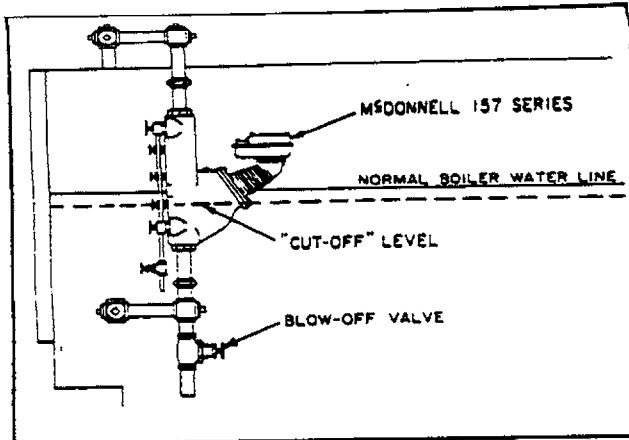

FIGURE 6 — PUMP CONTROL, LOW WATER CUT-OFF, LOW WATER ALARM (For Boilers With Steam Pressures Up To 150 psi)
Gauge Glass Blowdown (See Figure 6)
- a. Fully close both the top and bottom gauge glass isolation valves. (See Figure 6)
(Refer to Figure 6)****CAUTION!**